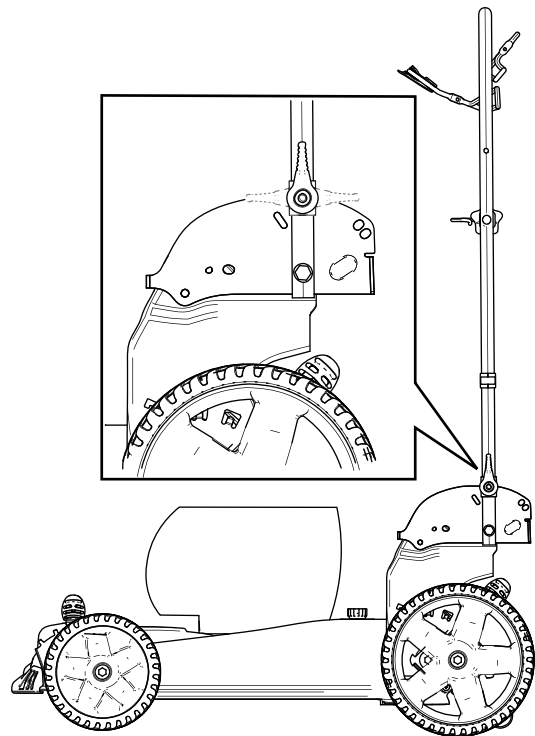

Figure 19
4. Fold the handle forward either to the vertical position or the fully forward position as shown in Figure 19.